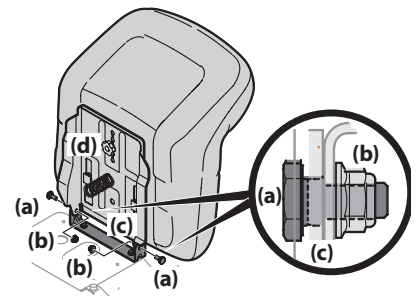

Figure 7
5. Position the seat assembly over the seat mounting bracket, aligning the holes provided. See Figure 7.
6. Install the two shoulder bolts (a) and lock nuts (b) removed from the seat mounting bracket (c) in Step 1. See Figure 7.
7. To adjust the position of the seat, loosen the adjustment knob (d) on the bottom of the seat. Slide the seat forward or backward as desired. Securely retighten the adjustment knob. Refer to D in Figure 7.